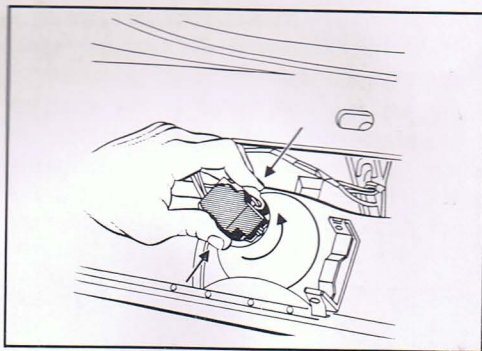

Figure 2 - Removing bulb socket from fixture
5. To remove the bulb socket from the fixture, push the locking tab on the bulb socket and turn the socket counter-clockwise. See Figure 2.